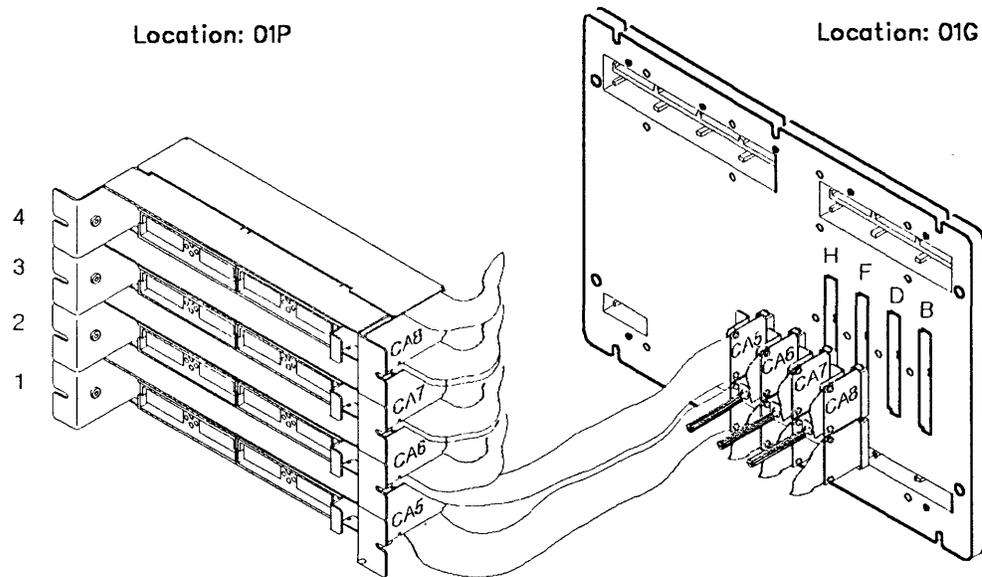
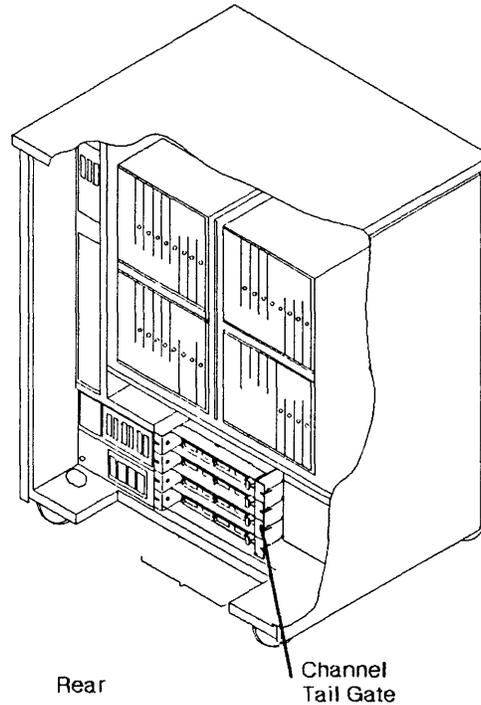

Figure 4-27. 3745 Channel Tail Gate
Figure 4-43. Channel Tail Gate Location
22. (from step 8 on page 4-32). At the Channel Tail Gate set the Select Out Bypass switch to **bypass** (refer to Figure 4-27 on page 4-23 and to Figure 4-43 and to Figure 4-44) according to the CADR to be replaced (refer to Figure 4-42).
8. At the Channel Tail Gate set all the Select Out Bypass switches to **bypass** (refer to Figure 4-43 and to Figure 4-44 on page 4-34).